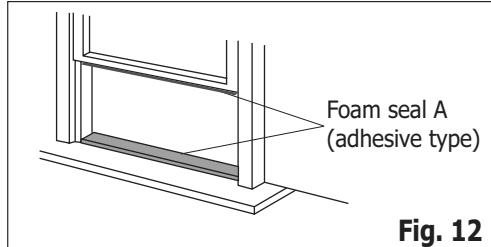

Fig. 12
- Cut the foam seals(adhesive type) to the proper lengths and attach them to the window and stool. (Fig. 12)